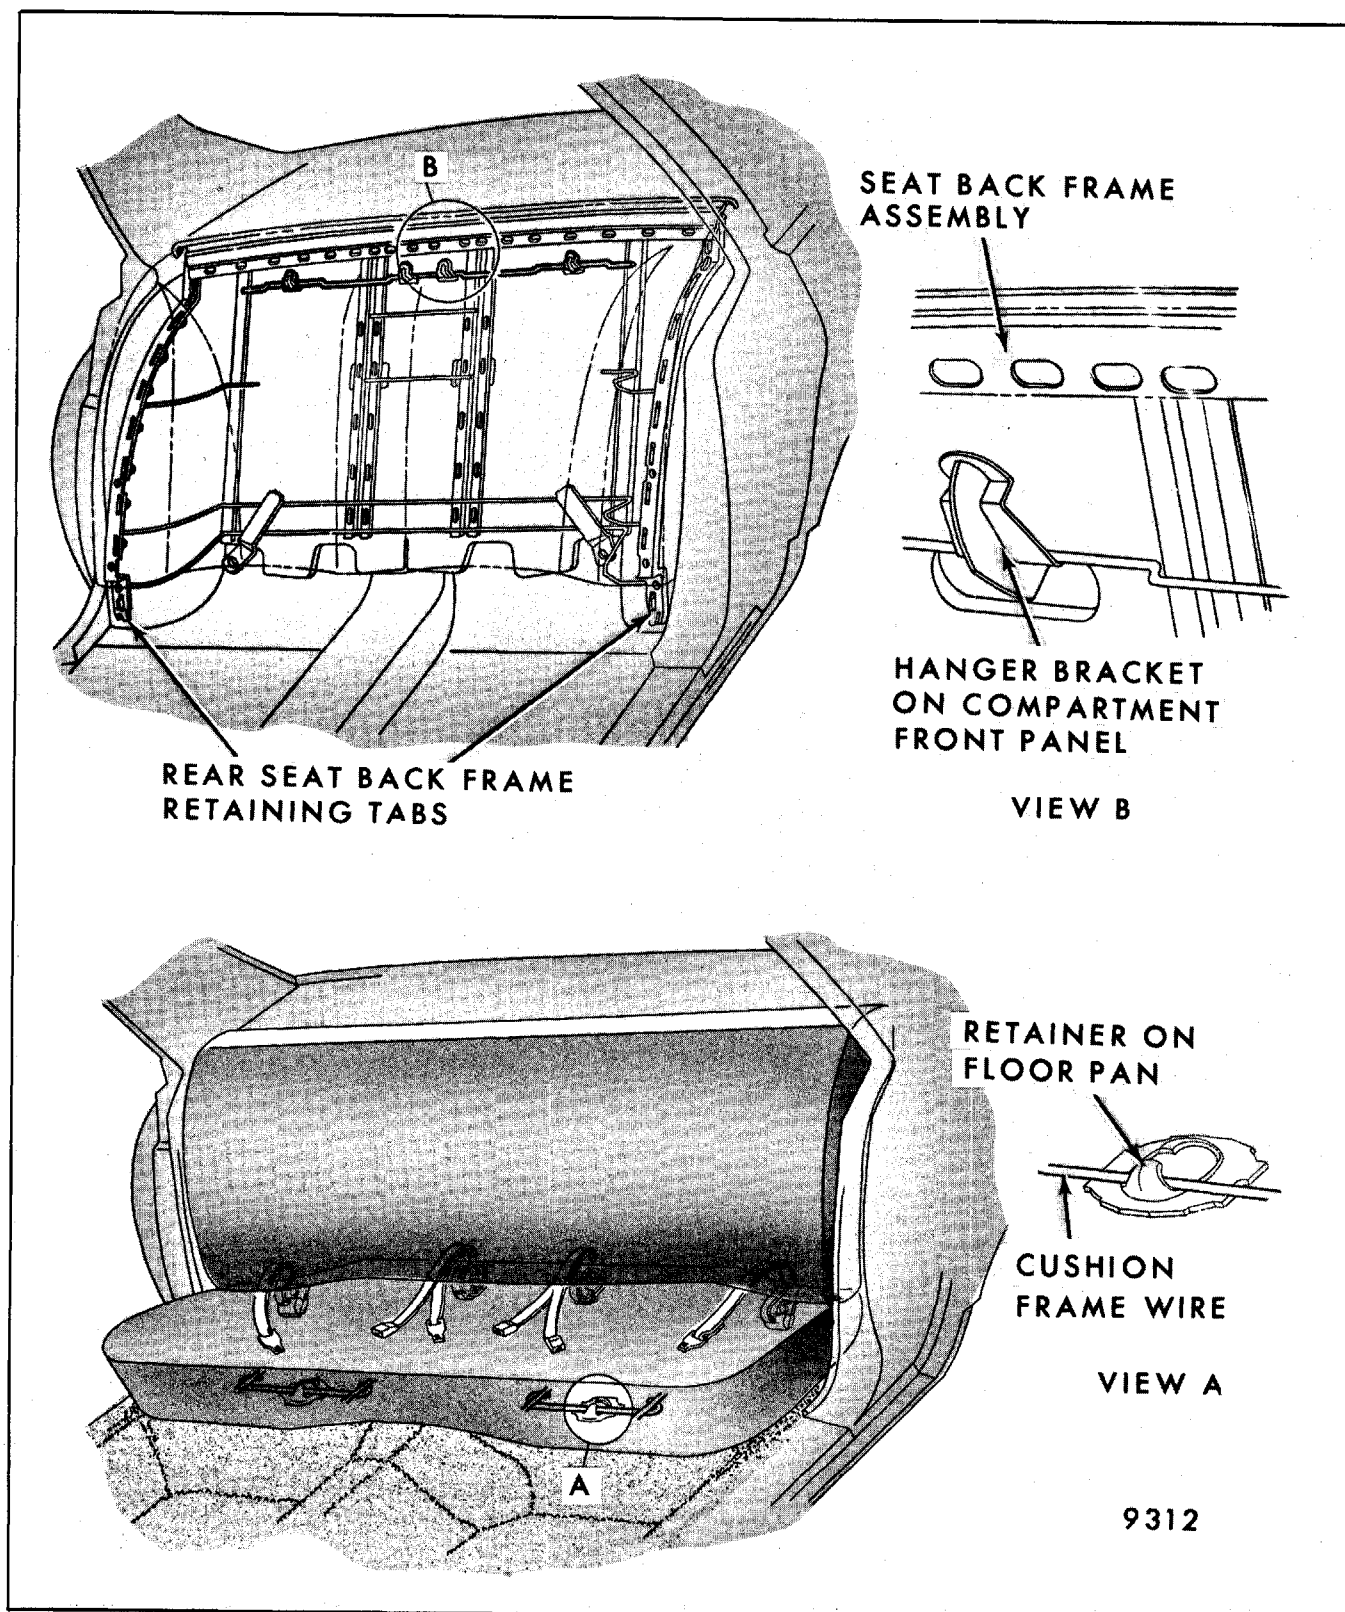

Fig. 9-65-Rear Seat Cushion and Back Installation - "B,C,D,E" Body Styles Except Station Wagon
2. Align frame wire offsets on front of seat cushion frame with retainers on floor pan (Fig. 9-65). Push seat cushion assembly rearward until offsets engage in retainers; then press down and pull cushion forward to fully engage in retainers.
rear seat outer lap belt retractors (see Figs. 9-65 and 9-67).